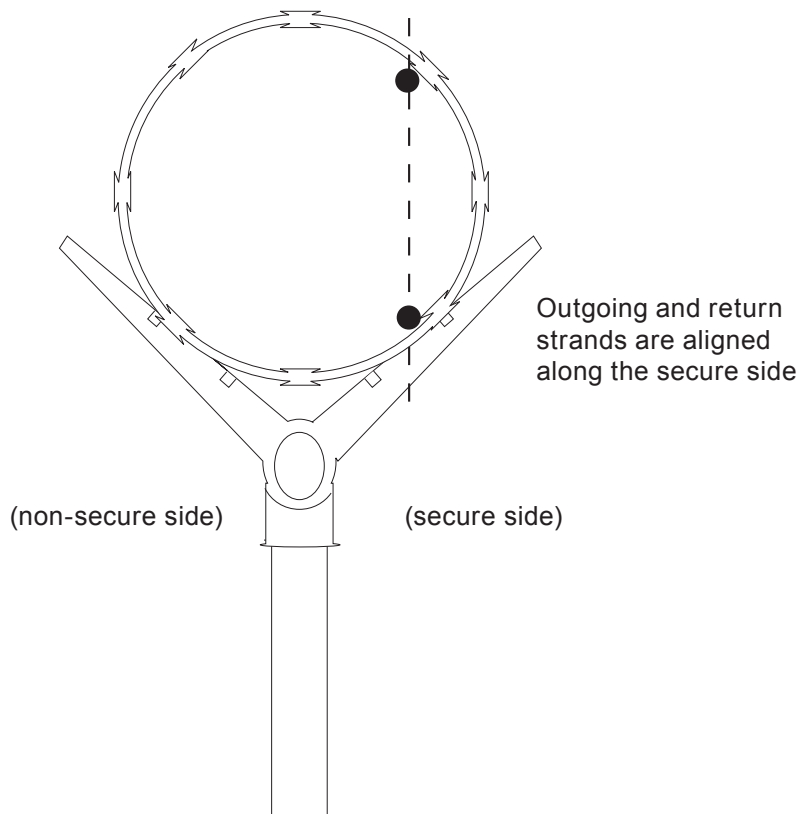

Figure 4 - Sensor cable placement on coils for "loopback" deployments
4. If the cable conduit assembly is being installed in a loopback pattern, ensure the return strand is aligned on the “secure” side of the coils at a vertical level even with the outgoing strand (Figure 4)